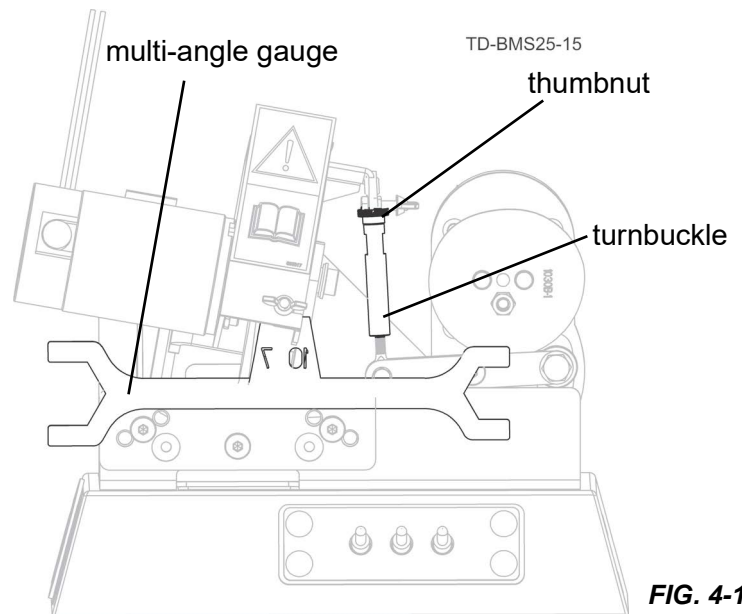

FIG. 4-1
6. Install the gauge into the clamp, against the blade height bolts, with the correct angle measuring edge toward the grinding wheel face. **See Fig. 4-1.**